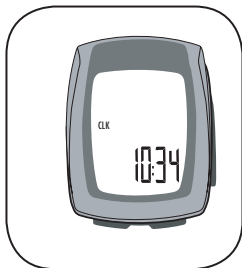

Figure 14- CLOCK screen
1. Cycle **Mode** to CLK (Figure 14).